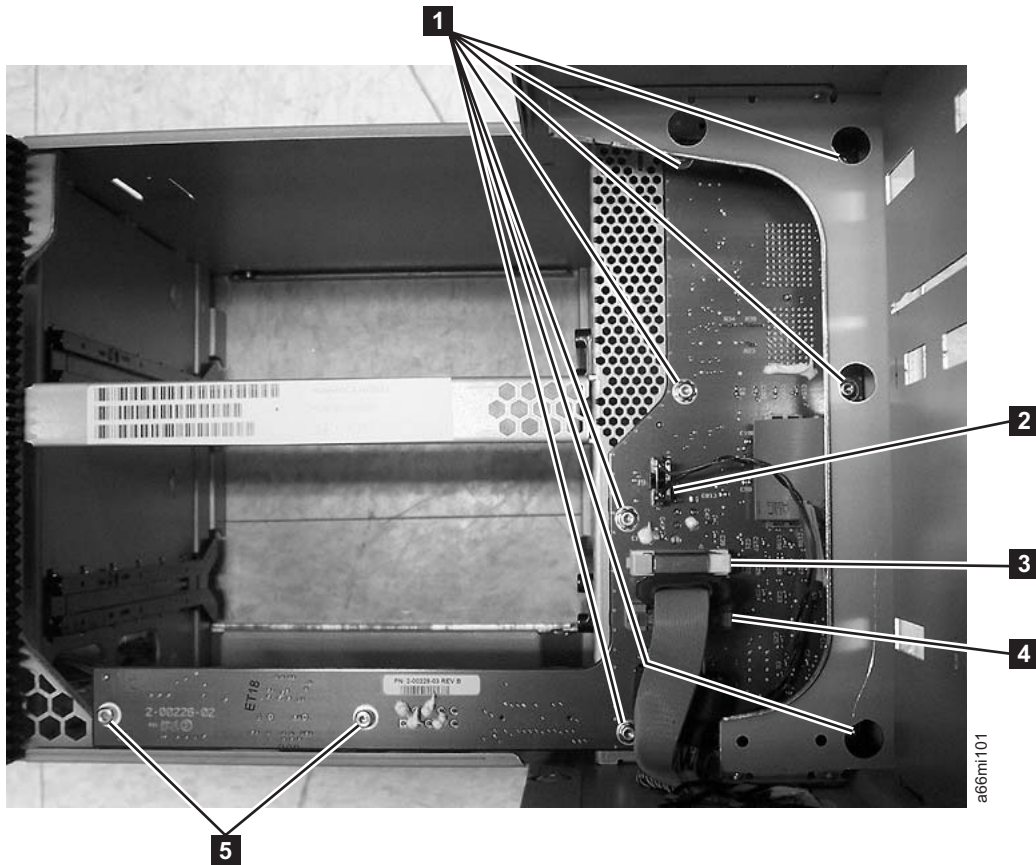

Figure 8-72. Backplane Connector Board (BCB), Front View
- c. Unplug cable connectors J9 (see **2** in Figure 8-72 on page 8-74), J16 (see **3** in Figure 8-72 on page 8-74), and J15 (see **4** in Figure 8-72 on page 8-74) from the BCB.
- a. Remove the 2 T8 Torx shoulder screws (**5** in Figure 8-72 on page 8-74) holding the lower part of the BCB.
- b. Remove the 7 T10 Torx screws (**1** in Figure 8-72 on page 8-74) holding the remainder of the BCB.
Tip: When installing the new BCB it is easier to start the board mounting screws (**1** and **5** in Figure 8-72 on page 8-74) if you first stand the control module enclosure on end.